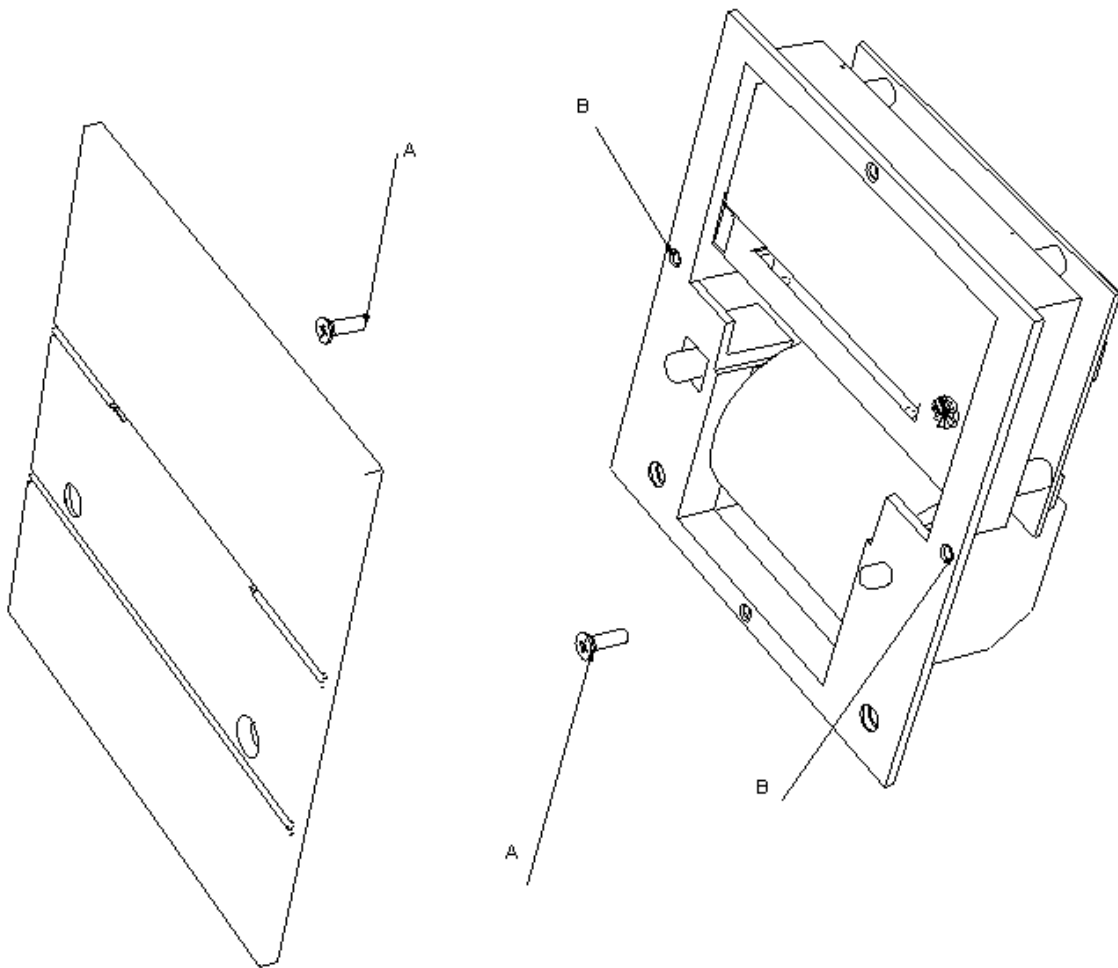

Fig. 2.1.- PANEL-10 installation.
- Screw down the printer with metric screws DIN965-M3x6 (Part **A** in **Fig. 2.1**) by the holes marked with a **B**.